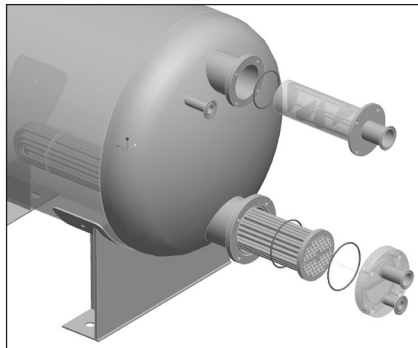

Fig. 15
There are two (2) gaskets for each coil. One (1) is located between the underside of the tubesheet and the front face of the vessel flange and one (1) is located between the front face of the tubesheet and the underside of the header flange (see Figure 15).
7. Remove the old gaskets and thoroughly clean the mating surfaces on the flange connections and tubesheet. Install two (2) new gaskets as shown in Figure 15.
- e. Use rotational tightening until all bolts are secure at the final torque level. A minimum of two (2) rotations is usually required.